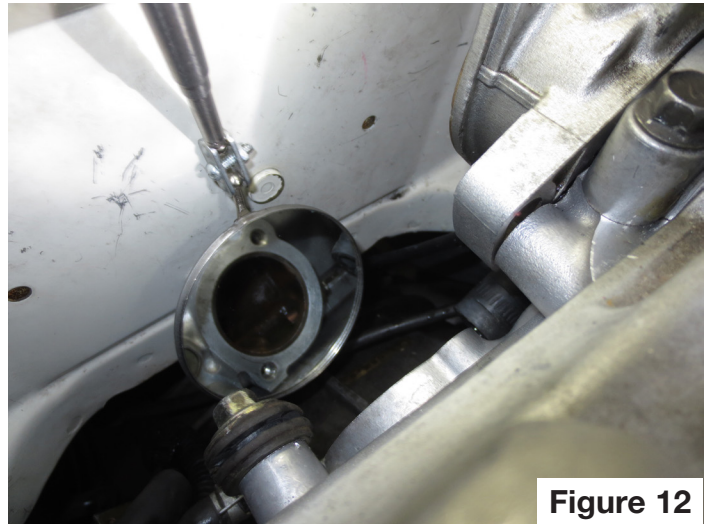

Figure 12
- 12) Remove the 12mm nut and bolt retaining the heater hose water neck at the rear of the cylinder head. Remove the heater hose water neck and set aside. Remove the stud from the rear of the cylinder head (Use double nut method. The other nut can be sourced from the front thermostat housing see step 12). Thoroughly remove all old gasket material with a razor blade and clean the mating surface. Take your time and clean thoroughly. It is helpful to use a telescoping mirror to clearly see the mating surface. Be sure that all old gasket material is removed. **Figure 12.**